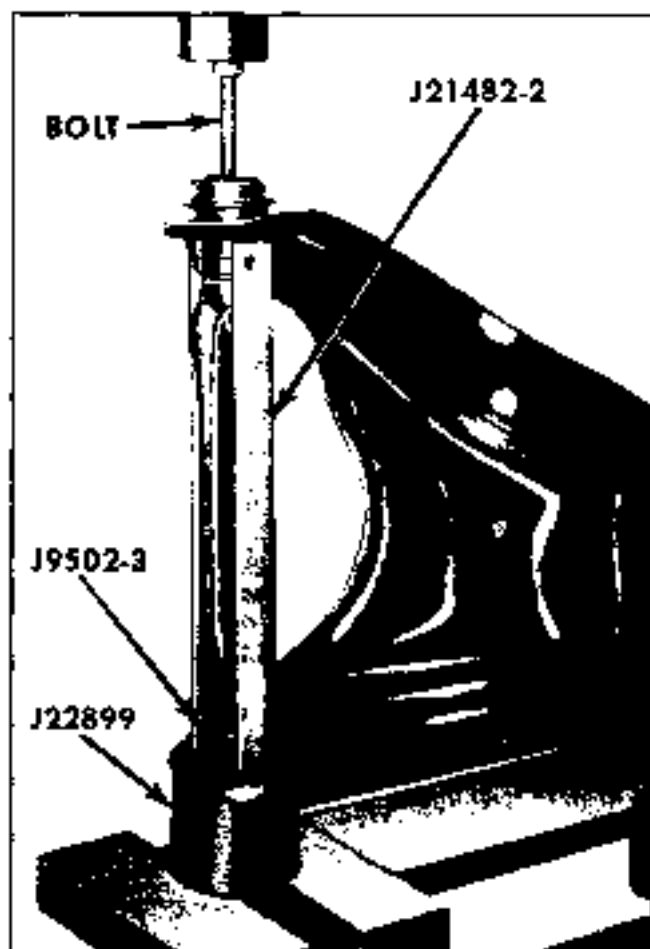

Fig. 3-14 Removing Upper Control Arm Bushing Firebird
3. Place control arm in an arbor press and position tools J 22899 and J 21482-2 as shown in Fig. 3-14.
NOTE: If bushing rubber is deteriorated to the extent that the bushing sleeve cannot be pushed out, release the press, install J 9502-3 as shown in Fig. 3-14 and press out the sleeve.